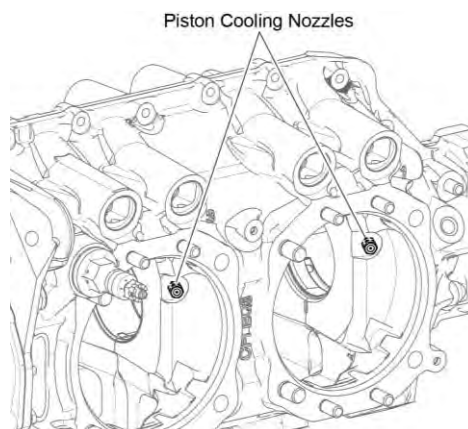

Figure 47
- B. Install two piston cooling nozzles in each crankcase half (Figure 47).